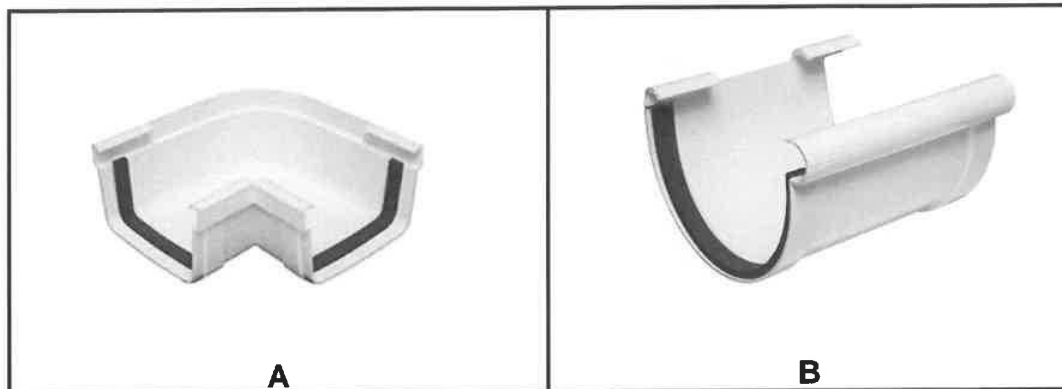

FIGURE 5.2
5.2 FIGURE 5.2 shows gutter components.